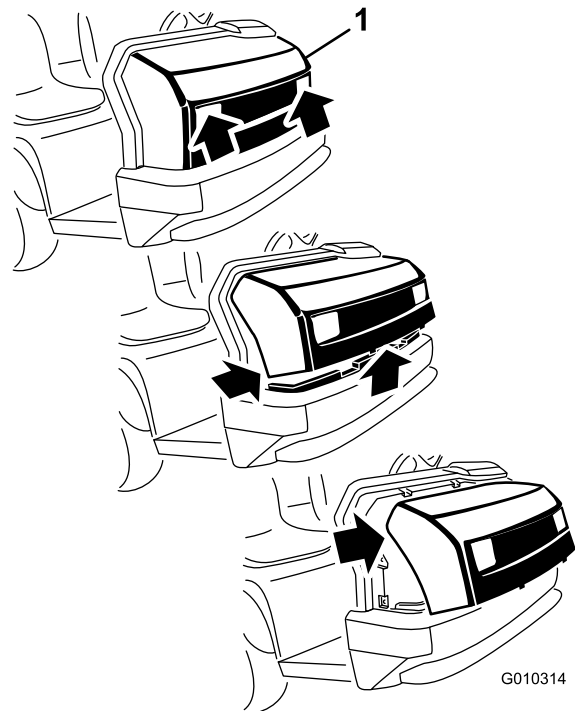

Figure 32
1. While grasping the hood in the headlight openings, lift up on the hood to release the lower mounting tabs from the frame slots (Figure 32).
2. Pivot the bottom of the hood upward until the top mounting tabs can be pulled from the frame slots (Figure 32).
3. Pivot the top of hood forward and unplug the wire connectors from the head lights (Figure 32).